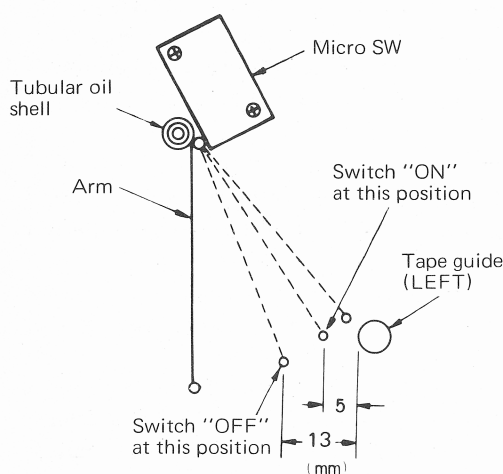

Fig. 5
Fig. 5 shows a drawing of the shut-off mechanism. The tube is filled up with silicon grease of some #500,000. Arm of the shut-off mechanism is smoothly driven by the dragging force of the grease. The position of arm is shown in Fig. 5 with respect to ON-OFF operation of the switch.
The "ON" and "OFF" states of the switch are shown in Fig. 5. The switch can be adjusted with Phillips head screw of microswitch loosened. The belated action of arm is sometimes ascribe to (1) jamming-up of the spring-shaped end of the arm with the inner walls of the tube or (2) too sticky silicon grease. In the latter case, it is recommended to replace silicon grease with low-viscosity one after removal of arm. (after some #200,000 to 300,000 operations of use)